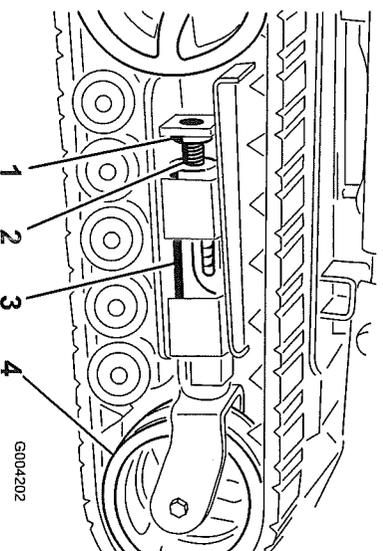
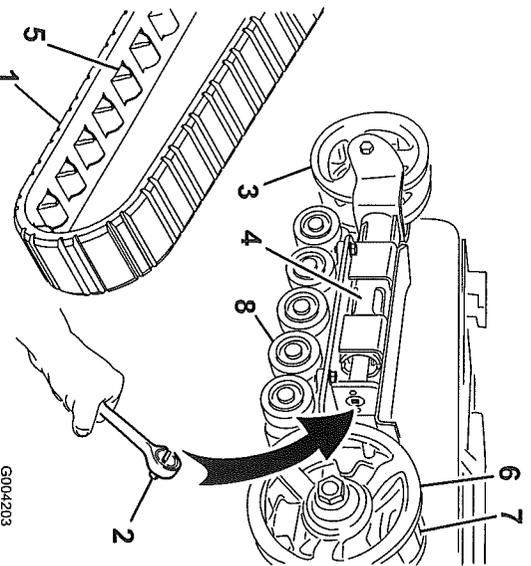
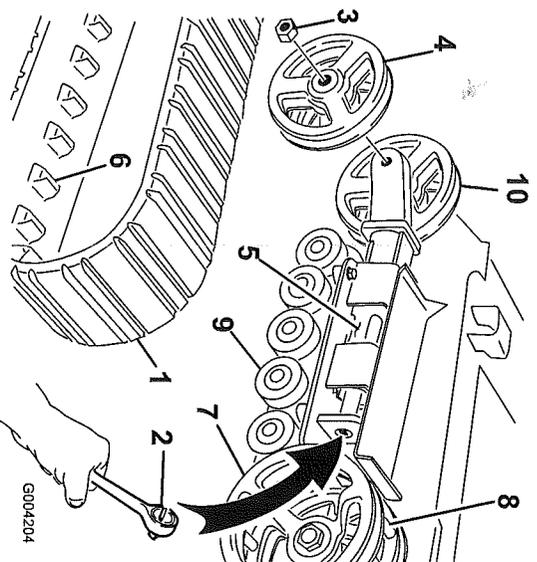

Figure 45
Figure 46
Figure 47
3. Remove the locking bolt and nut (Figure 45).
4. Using a 1/2 inch drive socket (Figure 46), turn the tensioning screw counter-clockwise until the distance between the tension nut and the back of the tension tube (Figure 44) is 2-3/4 inches (7 cm).
5. Align the closest notch in the tension screw to the locking bolt hole and secure the screw with the locking bolt and nut (Figure 45).
4. Using a 1/2 inch drive socket, release the drive tension by turning the tensioning screw clockwise (Figure 45 and Figure 46).
5. Push the tension wheel toward the rear of the unit to move the fork tube against the frame (Figure 46). (If it does not touch the frame, continue turning the tensioning screw until it does.)
7. When the track is off of the tension wheel, remove it from the drive sprocket and road wheels (Figure 46).
8. Beginning at the drive sprocket, coil the new track around the sprocket, ensuring that the lugs on the track fit between the spacers on the sprocket (Figure 46).
9. Push the track under and between the road wheels (Figure 46).
4. Using a 1/2 inch drive socket, release the drive tension by turning the tensioning screw clockwise (Figure 45 and Figure 47).
5. Push the tension wheel toward the rear of the unit to move the tension tube against the frame (Figure 47). (If it does not touch the frame, continue turning the tensioning screw until it does.)
6. Remove the nut securing the outer tension wheel and remove the wheel (Figure 47).
7. Remove the track (Figure 47).
8. Remove the nut securing the inner tension wheel and remove the wheel (Figure 47).
12. Install the inner tension wheel and secure it with the nut removed previously (Figure 47).
14. Install the new track, ensuring that the lugs in the track fit between the spacers in the middle of the drive sprocket (Figure 47).
15. Install the outer tension wheel and secure it with the nut removed previously (Figure 47).